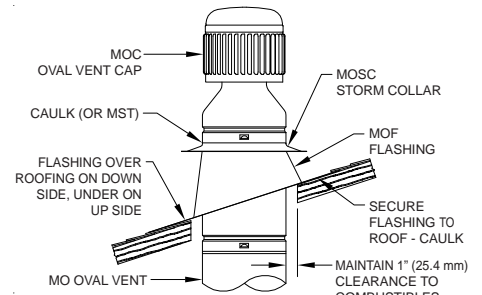

FIGURE 6
- If your installation terminates as oval, the Oval Flashing (MOF) and Oval Storm Collar (MOSC) are shown in **FIGURE 6**. An Oval Vent Cap (MOC) completes the installation.